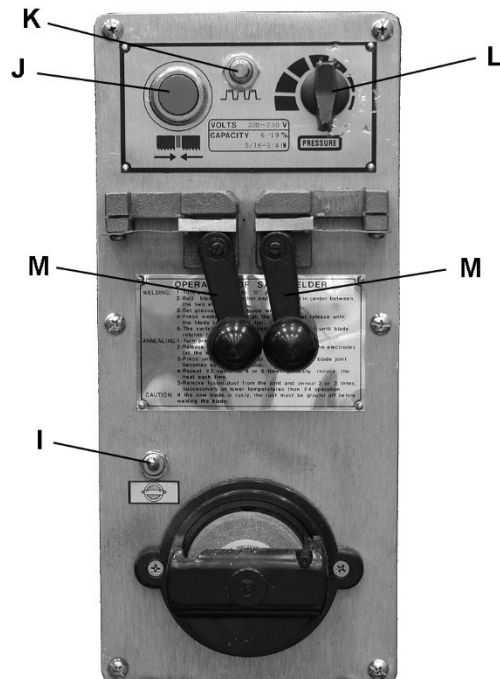

Figure 3
**Grinder Toggle Switch (I, Figure 3)** – located on blade welder panel. Flip switch up to start grinder; flip down to stop grinder.
**Weld Button (J, Figure 3)** – located on blade welder panel. Press and hold to start welding. Shuts off automatically when weld is done. Release when weld is completed.
**Anneal Button (K, Figure 3)** – located on blade welder panel. Press and hold to anneal blade, release to stop.
**Blade Clamp Pressure Knob (L, Figure 3)** – located on blade welder panel. Sets pressure for different width blades. Turn counterclockwise to bring blade clamps closer together, clockwise to separate.
**Blade Clamps (M, Figure 3)** – located on blade welder panel. DOWN position allows insertion of blade into clamp. UP position locks blade.